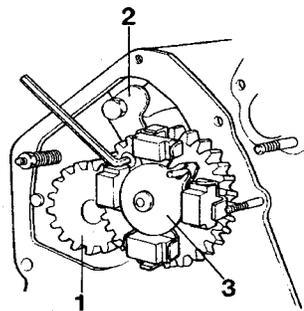

Fig. 70. Fitting the camshaft
1. MD2010, MD2020: Fit the gear (1, Fig. 70) for the mechanical tachometer drive\*.
2. Oil in the camshaft's bearing races and carefully lift the camshaft in position complete with gear and regulator weights (together with the gear (1) for the mechanical tachometer drive\* on MD2030 and MD2040.